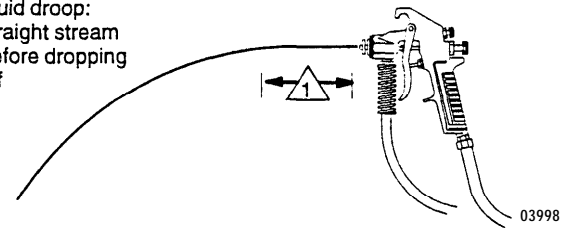

Fig. 8
1. With the system primed, the gun regulator (6b) closed, and the pump air regulator (6a) set as instructed in Step 10 on page 8, adjust the fluid pressure regulator (44) to the fluid manufacturer's specifications, if available. Otherwise, follow Step 2 to determine the fluid pressure setting.
2. To determine the fluid pressure setting, hold the gun parallel to the floor. (Be sure to catch the fluid in a container.) With the gun air pressure turned OFF, trigger the gun. Adjust the fluid pressure regulator (4) until the straight fluid stream is within the range indicated for the viscosity of your fluid before it drops off. See Fig. 8. Make note of the pressure on the fluid gauge if it is your optimal fluid pressure setting.